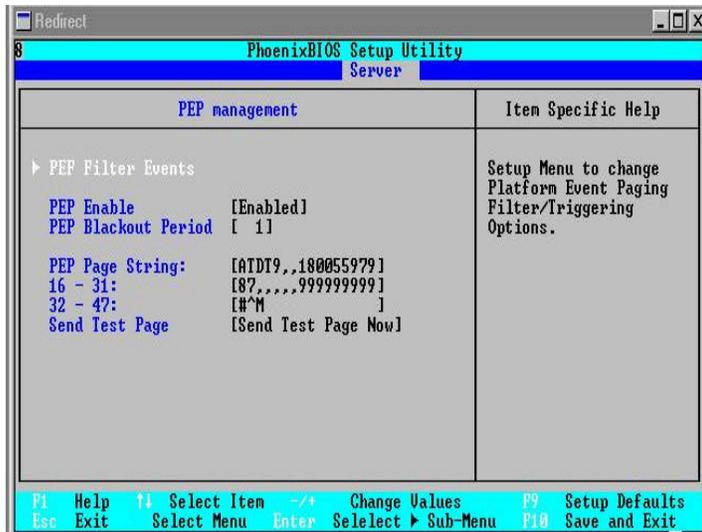

Figure 2: PEP Management Screen
4. Using the down cursor arrow key select "**PEP Management**" and press <Enter>. Refer to Figure 2.